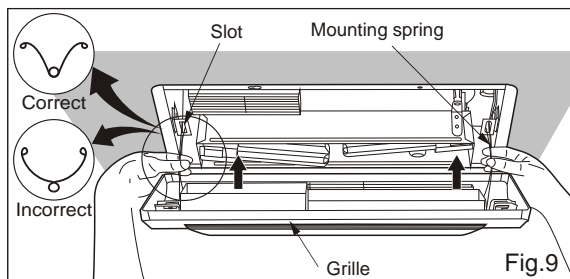

Fig.9
10. Insert mounting springs into slots as shown and mount grille to fan body. (Fig.9)